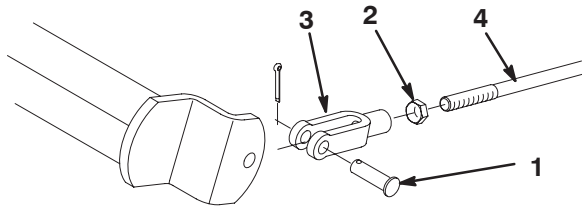

Figure 51
2. Loosen the jam nut and adjust the clevis accordingly (Fig. 51).
3. Assemble the clevis to the brake shaft (Fig. 51).